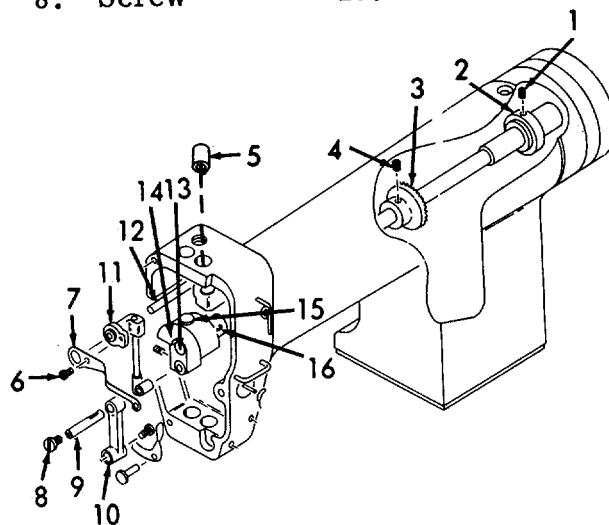

Figure 6-114. Upper Shaft Assembly, Removal.
a. Removal (Refer to Figure 6-114).
- (1) Loosen two setscrews (1) (do not remove) in top shaft rear bushing (2) and remove bushing.
- (2) Loosen two setscrews (4) (do not remove) in top shaft gear (3).
- (3) Remove needle bar front bushing (5).
- (4) Remove screw (6) and remove take-up lever (7).
- (5) Remove screw (8) and remove crank stud (9) and needle bar link (10).
- (6) Remove take-up fulcrum (11) from take-up fulcrum stud (12).